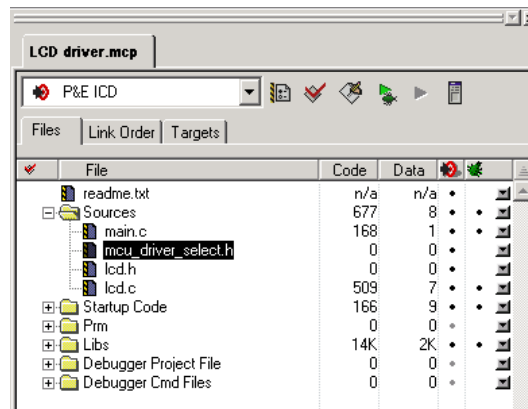

Figure 4. Sources Folder Location in the CodeWarrior Window for mcu_driver_select.h
2. Search in the project window for the folder sources and open the mcu_driver_select.h (see Figure 4).
1. Open the file `lcd.h`, which is located in the sources folder. See Figure 4.
1. Open main.c, which is in the sources folder (see Figure 4).